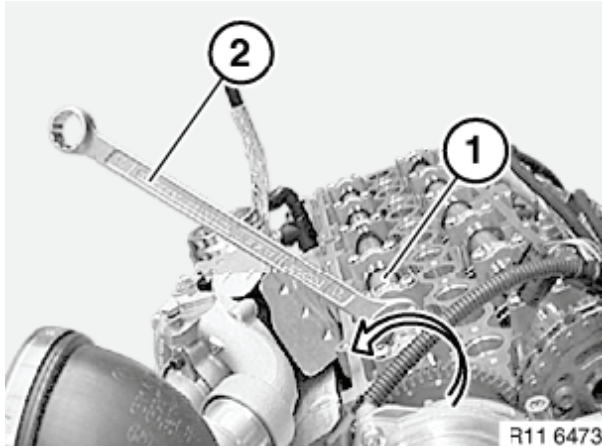

Figure 5-93
9. Use a wrench (**Figure 5-93, (2)**) to turn exhaust camshaft (**Figure 5-93, (1)**) in direction of arrow to compress the timing chain tensioner.